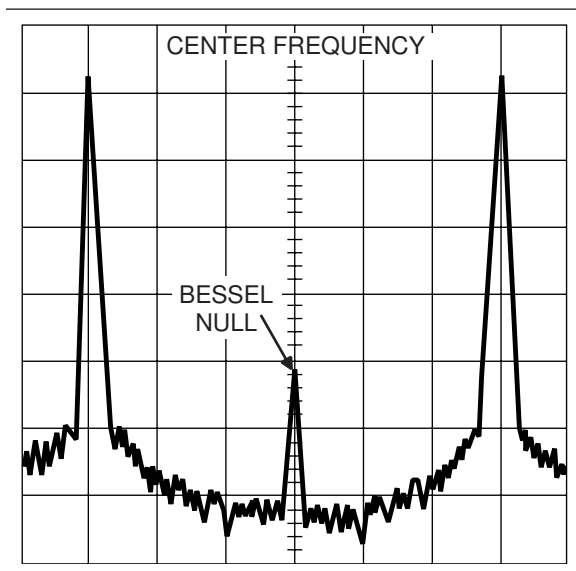

Figure 4-10. Typical Spectrum Analyzer Display of Bessel Null on FM Waveform
- e. While observing the first Bessel null (Figure 4-10) on the Spectrum Analyzer display, adjust the value of the DAC's setting to reduce the carrier level as low as possible.
- f. While observing the first Bessel null (Figure 4-10) on the Spectrum Analyzer display, adjust the value of the DAC's setting to reduce the carrier level as low as possible.